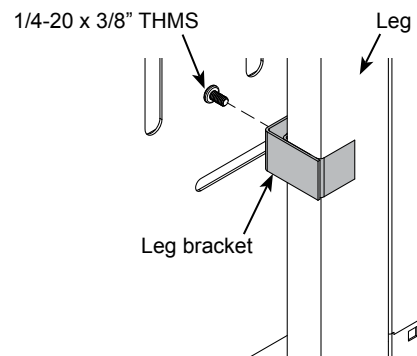

Figure 4
1. Line up the bracket with the front slot of the CPU sling as shown and attach with (1) 1/4-20 x 3/8" THM screw (042025). **Figure 4**.